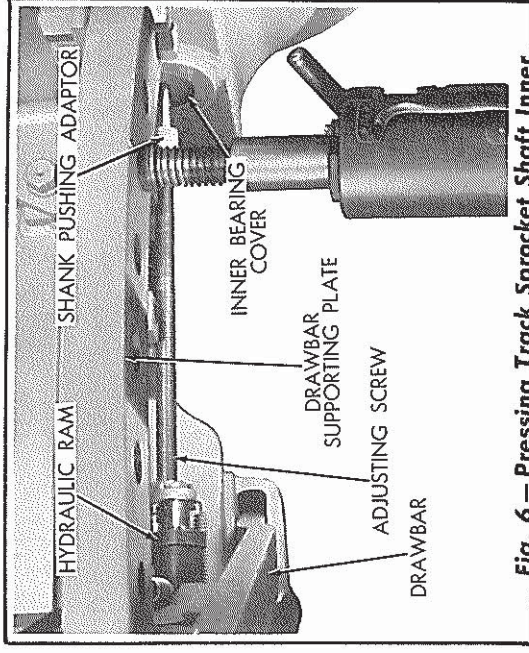

Fig. 6 — Pressing Track Sprocket Shaft Inner Bearing Cage from Housing
11. If it is necessary to remove the sprocket shaft inner bearing cup, the bearing cup and the inner bearing cage may be removed as a unit using tools similar to the ones shown in Fig. 6. Press (towards the final drive compartment) on the track sprocket shaft inner bearing cover until the inner bearing cage is free of its bore in the housing, then remove the inner bearing cup, inner bearing cage, inner bearing cover, and cover packing ring.